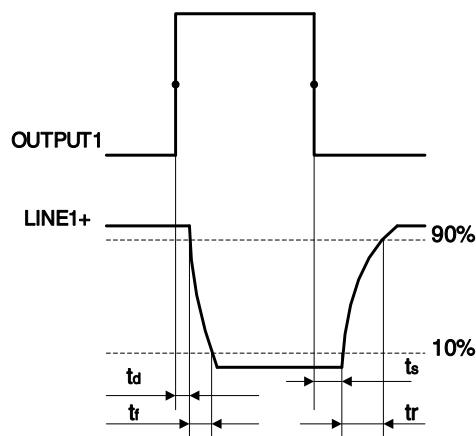

Figure 7-6 Parameter of opto-isolated output circuit
- Rising time delay = t_r+t_d : < 50μs (0°C ~ 45°C) (parameter description is shown in Figure 7-6)
- Falling time delay = t_s+t_f : < 50μs (0°C ~ 45°C) (parameter description is shown in Figure 7-6)
- Rising time delay = t_r+t_d : $< 20\mu\text{s}$ ($0^\circ\text{C} \sim 45^\circ\text{C}$) (parameter description as shown in Figure 7-6)
- Falling time delay = t_s+t_f : $< 20\mu\text{s}$ ($0^\circ\text{C} \sim 45^\circ\text{C}$) (parameter description as shown in Figure 7-6)